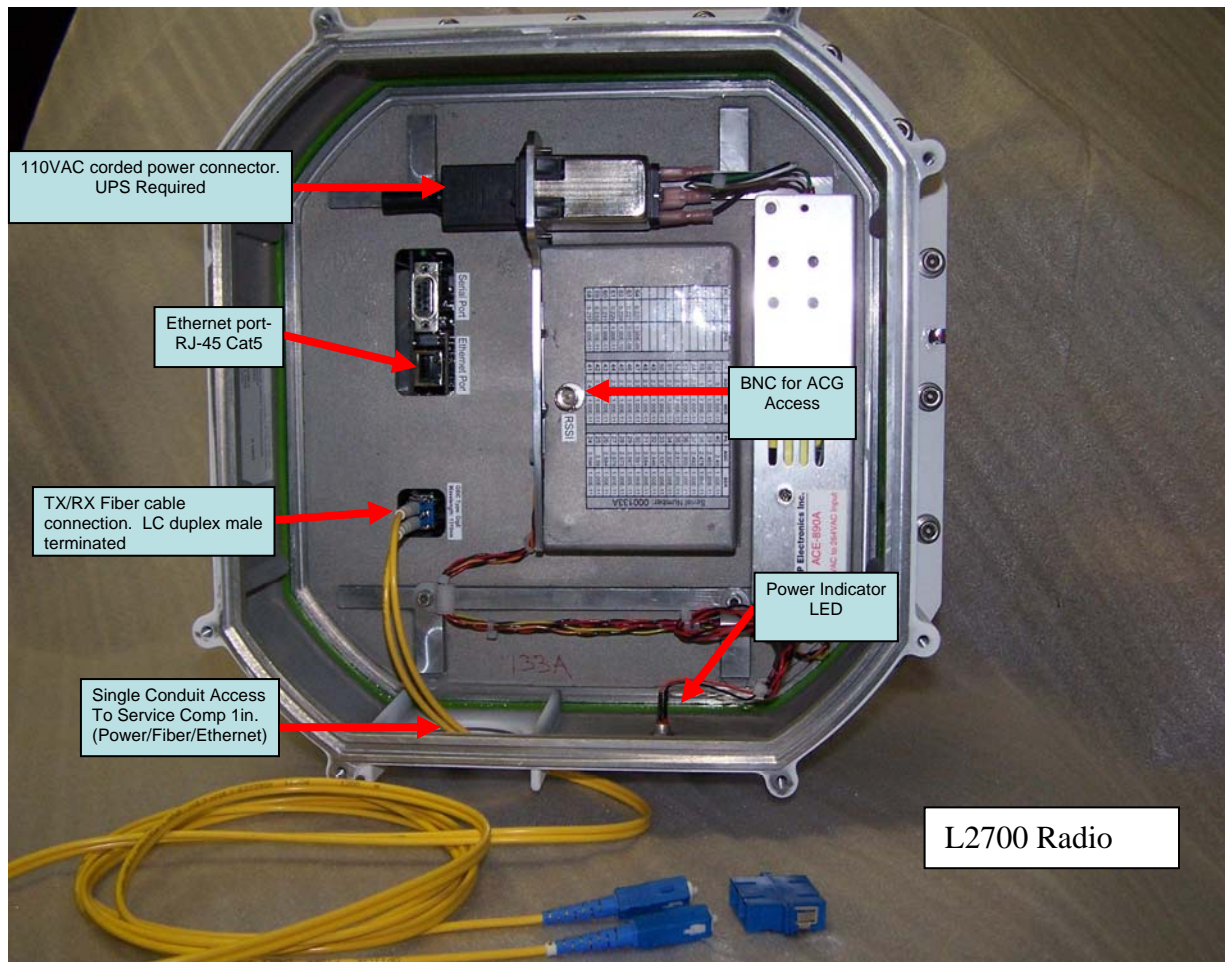

Figure 8. Inside Radio Service Compartment
2.7 Cabling to the Radio (see Figure 8)
Note: Make the network and power connections to the radio by removing the rear cover from the radio to reveal the service compartment as shown in Figure 8.
Begin by first passing the AC power cord (without connector) thru the conduit before attaching a female AC power connector to the radio side of the power cord. Once the power cord has been pulled thru, attach the female AC power connector (Fig.9) to the AC power cord. Then connect the power cord to the AC plug located in the service compartment (see Fig 8).
The fiber connector will mate with the GBIC located in the service panel as shown in Fig.8. A typical pluggable GBIC is shown in Fig. 13. Do not attempt to remove the GBIC unless instructed to do so by a Loea engineer.